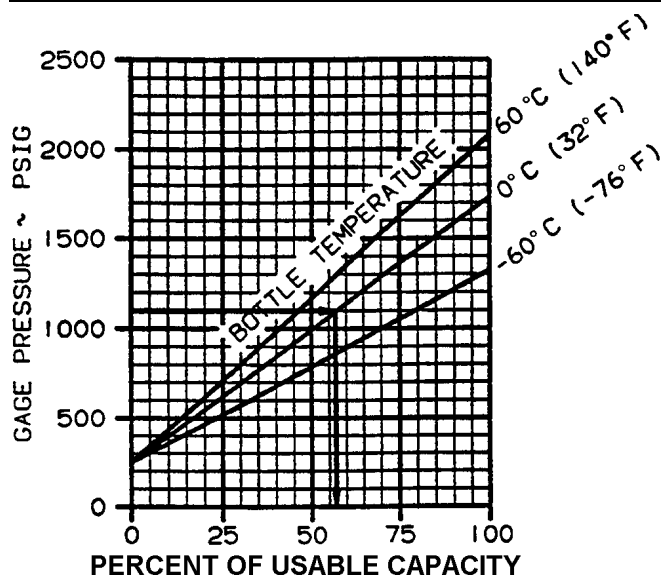

Figure 8A-1. Percent of Usable Capacity
- (1) Read oxygen pressure from the gauge.
- (2) Read the OAT (with battery on).
- (3) Determine the percent of usable capacity from Figure 8A-1 (e.g., 1100 psi at 0°C = 57%).
- (4) Compute the oxygen duration in minutes from Table 8A-1 by multiplying the full bottle duration by the percent of usable capacity, as in the following example: